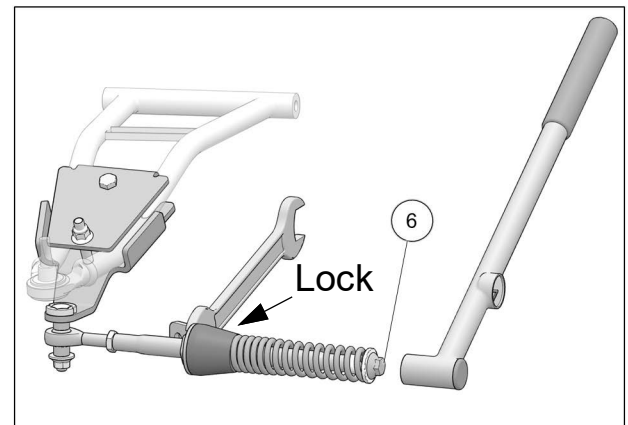

Fig. 23
- Verify that spring assembly bolt (6) is tightened to the recommended torque specification: 75 Nm [55lb•ft]. Make sure to lock in position, the large nut in front of the rubber cone damper. Refer to Fig. 23